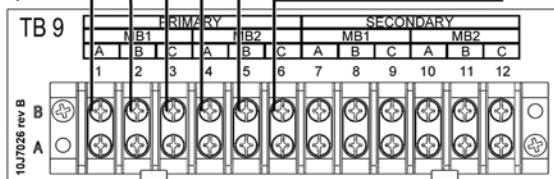

Figure 35. Modbus Connections (for Lead Lag)
are arranged in a “daisy chain.” The wiring from the Secondary controller on one boiler (TB9 - pins 7 through 12) to the Primary controller on the next boiler (TB9 - pins 1 through 6). See Figure 35. Use 22 AWG or thicker shielded twisted pair wire with drain. Two twisted pairs or three conductors are needed.
2. Figure 35 shows how to make the connections. The following table lists the connections from Boiler 1 to Boiler 2.
3. Repeat the process for Boiler 2 and 3, and Boiler 3 and 4. The connections to the other boilers follow the pattern we just described. Use Figure 35 as your reference.